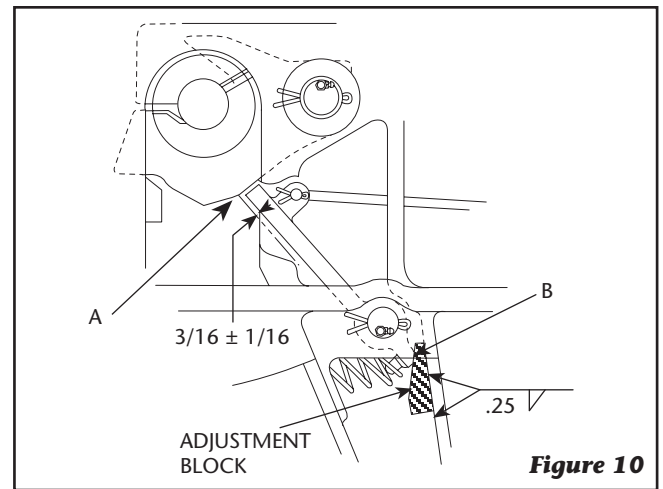

Figure 10
9. Coat the lock pin hole in the swinging lock (6) with Never-Seez® (supplied with kit). **This is VITAL. DO NOT USE** any substitute lubricant.
10. **Before installing the swinging lock (6)**, you must place the secondary lock (10) into its approximate location in the casting (see *Figure 10*).
11. Place the swinging lock (6) into position compressing spring (7). **Note:** The lock pin
- C.** Move the secondary lock handle to the closed position. Check the location of the end of the secondary lock in relation to the swinging lock. It should be 3/16" (0.188") $\pm$ 1/16" (0.06) from point (A) on the swinging lock (see Figure 10) when the secondary lock is resting against the casting at point (B).
- D.** If the secondary lock is not in the current position, install a secondary lock adjustment block (36) as shown in Figure 10. Move the adjustment block until proper adjustment is achieved, then weld the adjustment block in position, as shown in Figure 10. After welding, check the dimension and for proper operation of the secondary lock.